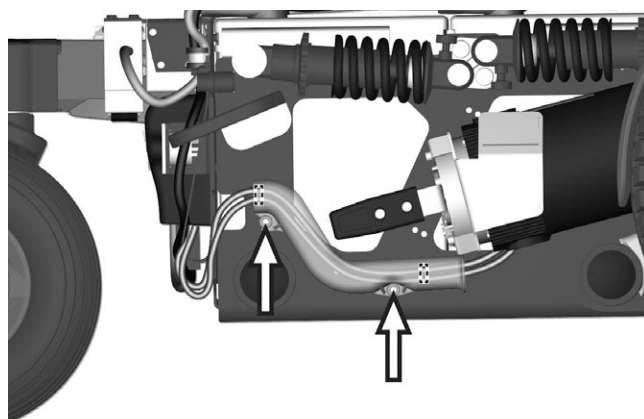

Figure 60. The drive motor cable and the wheel lock cable are fitted with a cable cover.
3. Fit the cables with the cable cover using the two screw that holds the cable cover to the chassis. See fig. 60.
3. Fit the cable to the chassis using the cable cover. See fig. 60.